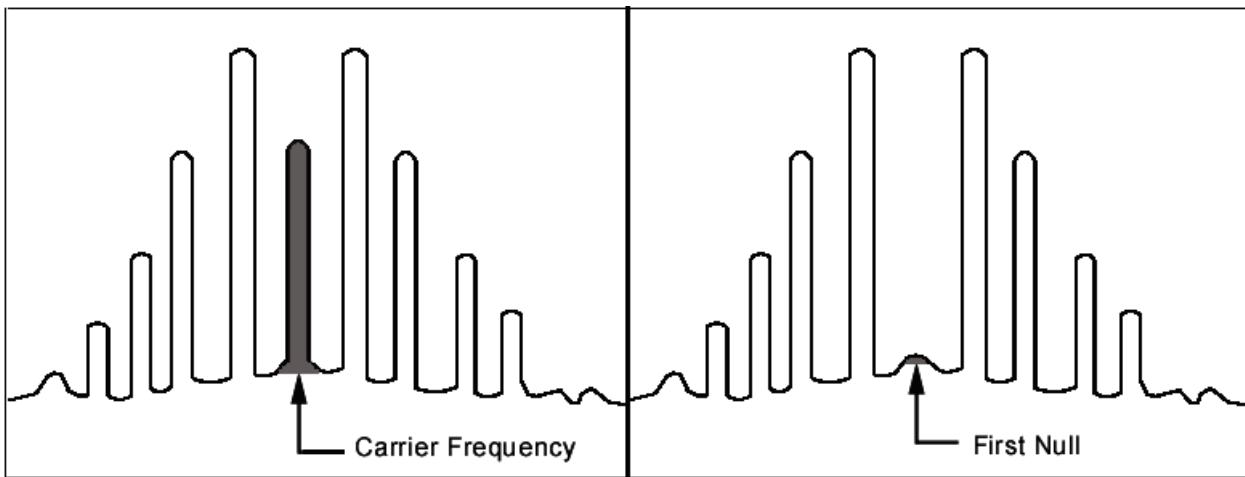

Figure 4. First carrier null of carrier frequency.
- (2) Set function generator controls for a 5 kHz, + 7 dBm output.
- (3) Set TI TEST MODE switch to FM and CARRIER FREQUENCY TUNE to 12.5 MHz (default reading from setup in previous test). If in doubt, initially verify this frequency output).
- (4) Set spectrum analyzer to measure the 12.5 MHz carrier frequency utilizing optimum settings for a display of carrier frequency as shown in figure 4.
- (5) Momentarily disconnect TI AUDIO INPUT and adjust spectrum analyzer reference level for full screen deflection of the carrier signal. Reconnect AUDIO INPUT.
- (6) Adjust function generator output level until the spectrum analyzer indicates the TI carrier signal nulls into noise baseline as shown in figure 4. (The level should be adjusted so that the TI signal null is half way between the two levels at which the carrier comes out of the noise.)
- (10) Adjust spectrum analyzer until the second harmonic of the doubled carrier frequency signal (approximately 1600 MHz) can be observed. Again, use optimum settings for a display as shown in figure 4.
- (11) Adjust function generator output level until multimeter indicates value noted in (7) above. Note function generator output level dBm setting.
- (12) Readjust function generator output level for a carrier null on spectrum analyzer, as shown in figure 4, and note change in function generator output dBm level. Level change will be less than ± 0.04 dBm of output level noted in (11) above.